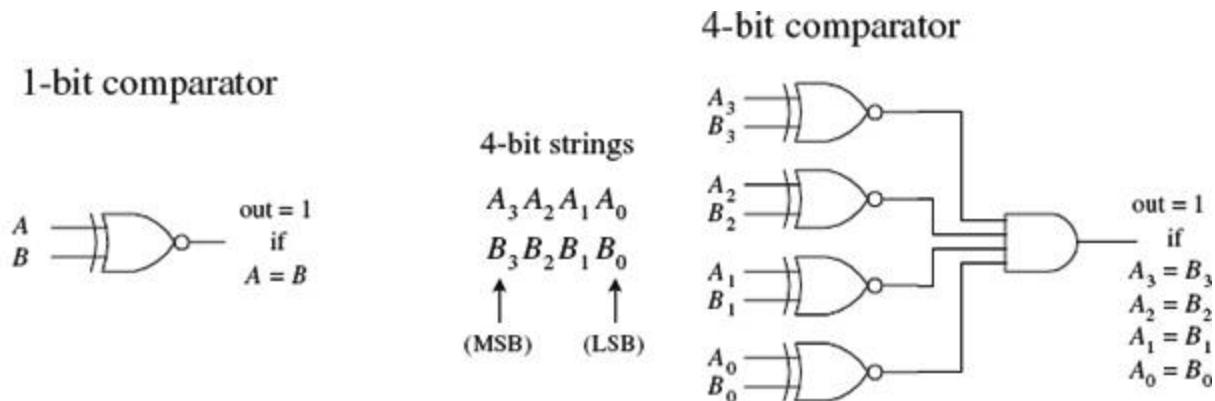
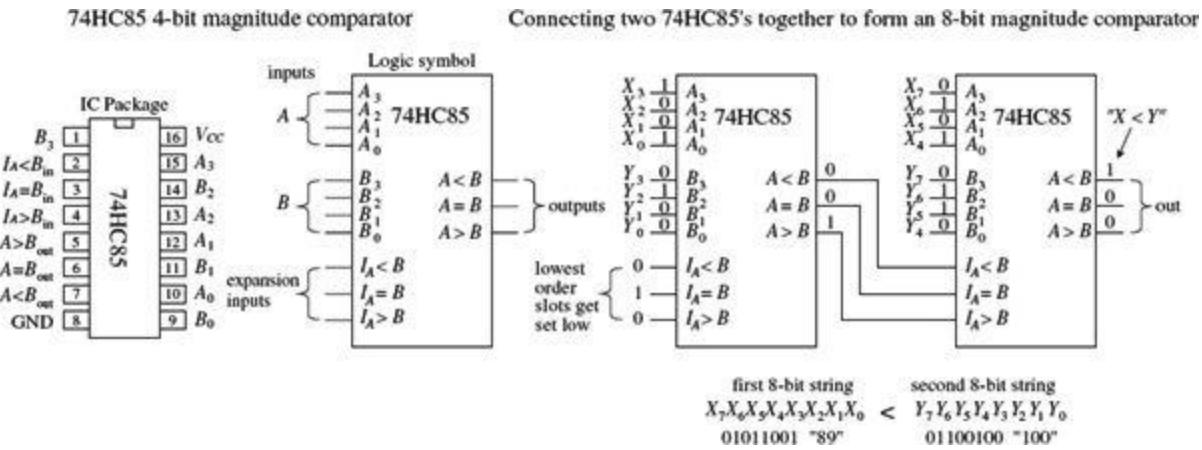

FIGURE 12.49
FIGURE 12.50
A digital comparator is a circuit that accepts two binary numbers and determines whether the two numbers are equal. For example, Fig. 12.49 shows a 1-bit and a 4-bit comparator. The 1-bit comparator outputs a high (1) only when the two 1-bit numbers A and B are equal. If A is not equal to B , then the output goes low (0). The 4-bit is basically four 1-bit comparators in one. When all individual digits of each number are equal, all XOR gates output a high, which in turn enables the AND gate, making the output high. If any two corresponding digits of the two numbers are not equal, the output goes low.
Now, say you want to know which number, A or B , is larger. The circuits in Fig. 12.49 will not do the trick. What you need instead is a *magnitude comparator* like the 74HC85 shown in Fig. 12.50. This device not only tells you if two numbers are equal, but also which number is larger. For example,
if you apply a 1001 (9_{10}) to the $A_3A_2A_1A_0$ inputs and a second number 1100 (12_{10}) to the $B_3B_2B_1B_0$ inputs, the $A < B$ output will go high (the other two outputs, $A > B$ and $A = B$, will remain low). If A and B were equal, the $A = B$ output would have gone high, and so on. If you wanted to compare larger numbers—say, two 8-bit numbers—you simply cascade two 74HC85 comparators together, as shown on the right side of Fig. 12.50. The leftmost 74HC85 compares the lower-order bits, while the rightmost 74HC85 compares the higher-order bits. To link the two devices together, you connect the output of the lower-order device to the expansion inputs of the higher-order device, as shown. The lower-order device's expansion inputs are always set low ($I_A < B$), high ($I_A = B$), and low ($I_A > B$).